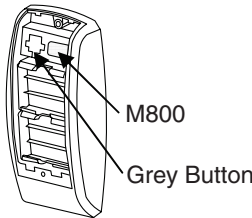

Figure 1
- If your label has an M800, then use the programming in Section 4. (Figure 1)